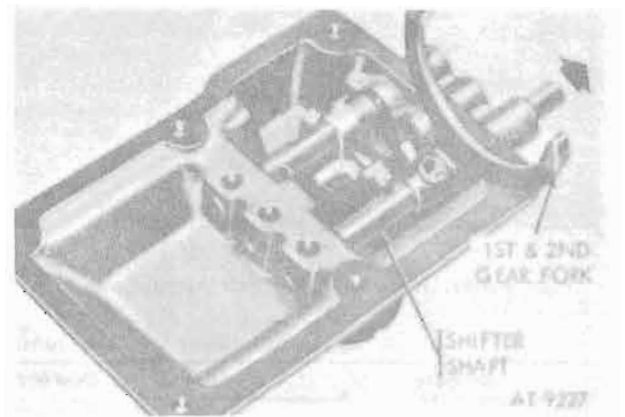

Figure 8-94. First and second speed shifter shaft and fork.
h. Using drift remove first- and second-speed gear-shifter shaft and fork from housing (fig. 8-94).
shaft and fork (fig. 8-94) by depressing detent ball. Refer to e above.